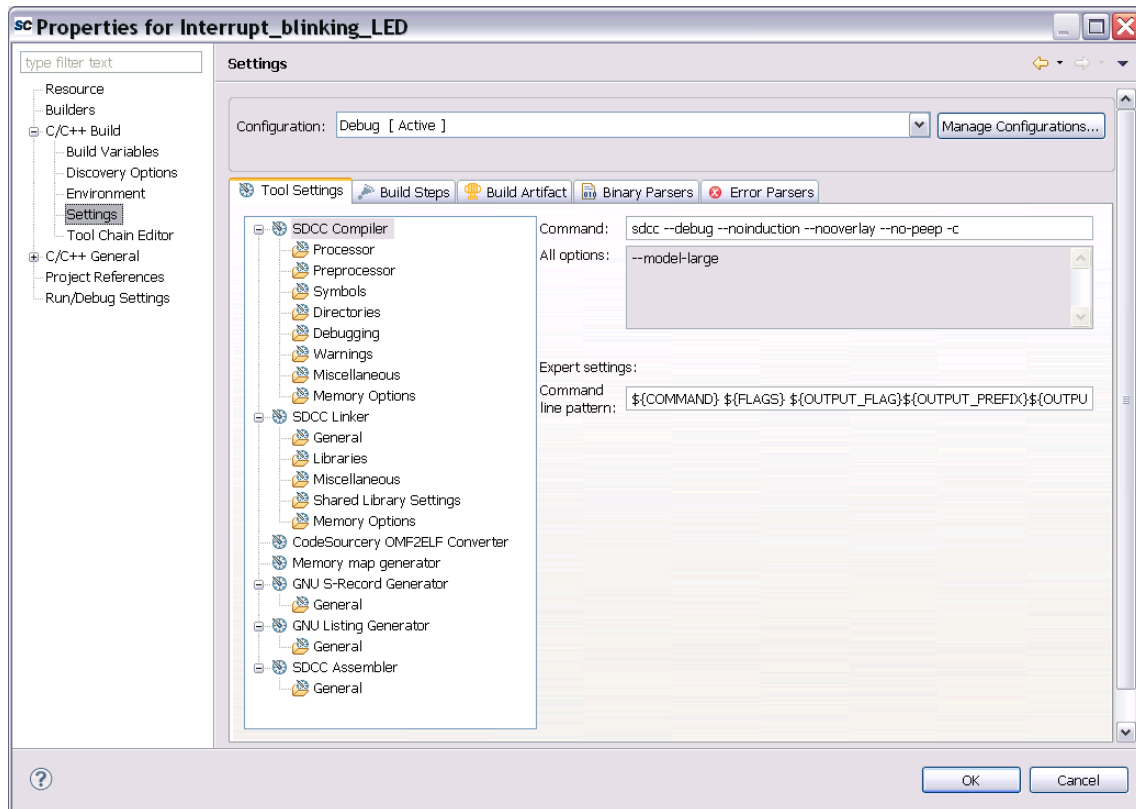

Figure 34 Adding Directories
1. Go to **C/C++ Build** → **Settings** → **SDCC Compiler** → **Directories**, click **Add**. The window is displayed, as shown in Figure 34.